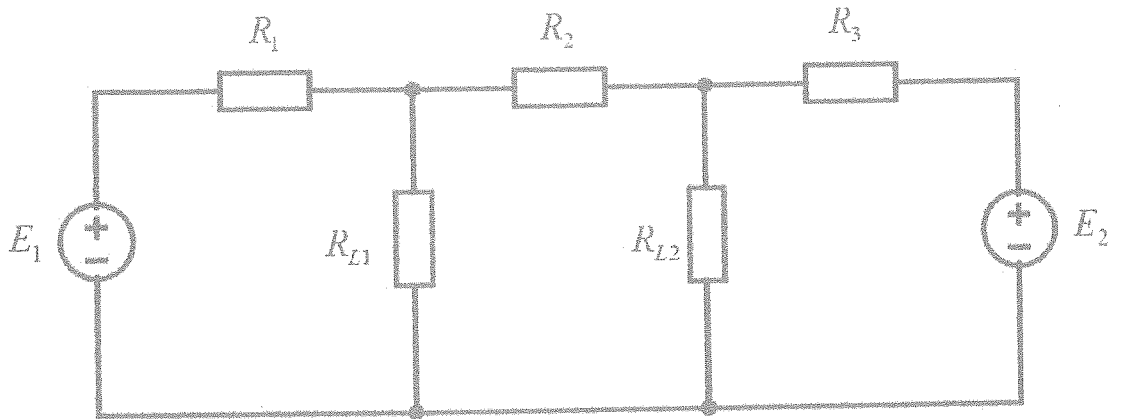

Figure Q1.2
c) Consider the circuit diagram given in Figure Q1.2, where R_{L1} and R_{L2} are the two loads in the circuit. The resistance and voltage values in the circuit are given by,